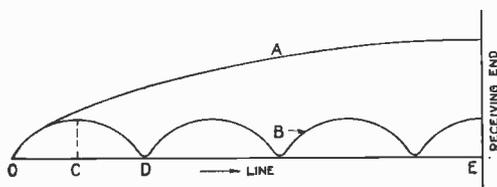

Fig. 1.
In the case of an ordinary loop aerial, this maximum effective length is obviously one-half wavelength, since there the phase difference between the two ends of the loop is utilised, but with the Beverage Antenna functioning in the manner just described the length of wire for maximum effect may exceed a complete wavelength, and may often be as much as two or three wavelengths. The greater the difference between the velocities of the wave on the wire and the free wave outside it, the shorter must be the wire in order that the maximum effect may not be passed, and the less the difference of wave velocities the greater can be the length of wire, and consequently a greater effect can be obtained on the receiving apparatus. These differences are illustrated diagrammatically in Fig. 1, which shows the building up of the wave intensity on the wire, (A) when the velocity difference is small: and (B) when it is much greater.
It will be noted from the foregoing that the impulse builds up on the wire in the direction of propagation of the wave, and that consequently the "free" end of the antenna, remote from the receiving apparatus, must point towards the transmitting station, and not away from it as in the case of ordinary bent or inverted L aerials. The curves in Fig. 1 may also be taken as representing the signal strengths that would be obtained in a receiving apparatus in the two cases, if the apparatus was gradually moved along the wire from the end O. In case (B), therefore, no advantage is gained by increasing the length of the aerial wire beyond that required to give the first maximum of signal strength, *i.e.*, beyond the length OC, but in case (A) the longer aerial is obviously advantageous.